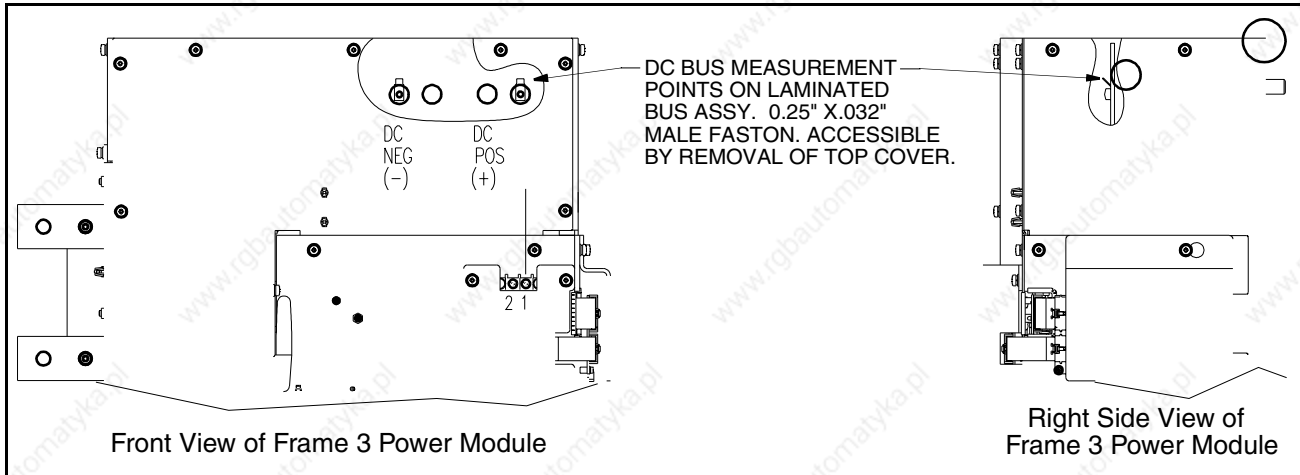
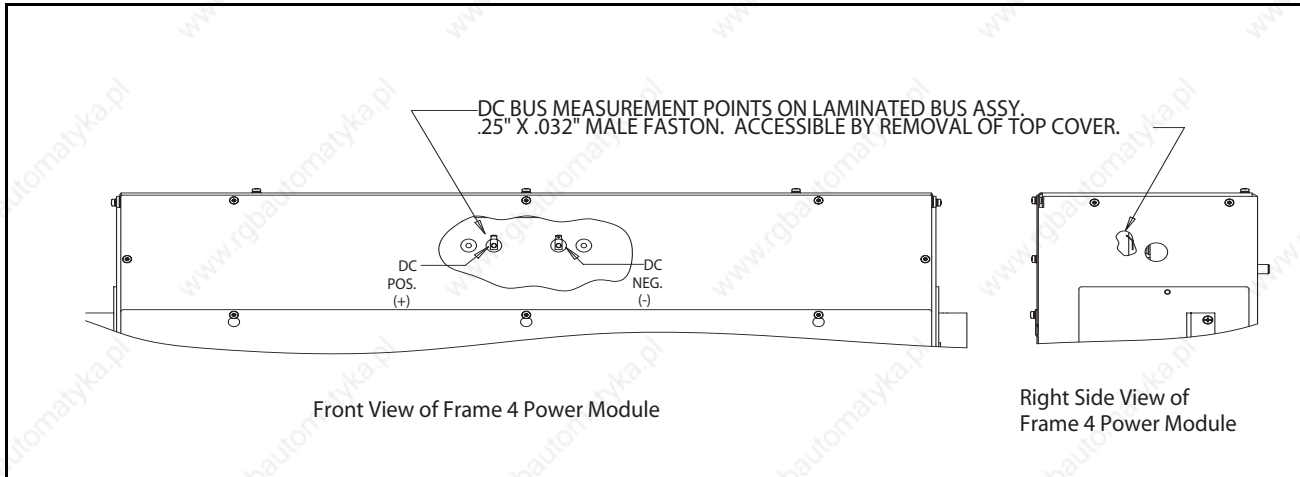

Figure 10.1 – Location of DC Bus Measuring Points (Frame 3)
Figure 10.2 – Location of DC Bus Measuring Points (Frame 4)
- Step 5. Measure the DC bus potential with a voltmeter while standing on a non-conductive surface and wearing insulated gloves. Refer to figure 10.1 for frame 3 and figure 10.2 for frame 4.